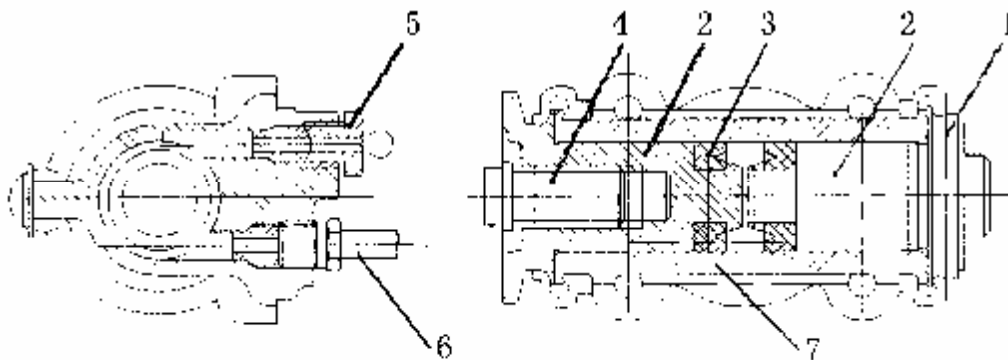

Figure 7-8-5 Rear wheel cylinder
▲ Wheel cylinder -- front wheel cylinder uses single piston and rear wheel cylinder uses dual pistons. Front wheel cylinder consists of tube, piston, cup, vent screw and adjusting screw. Rear wheel cylinder (figure 7-8-5) is composed by tube (7), piston assembly (2), wheel cylinder cup, (3) adjusting screw, (4) and vent screw (5). FR/RR wheel cylinders are mounted brake base plates on each wheel cylinder's two ends contact ends of FR/RR brake shoes. There are fluid inlet orifices and vent holes on tube rear face. When brake pedal is depressed, fluid flows from tube connector through orifice to enter tube, piston moves outward under hydraulic pressure, expanding brake shoe to press on brake drum.